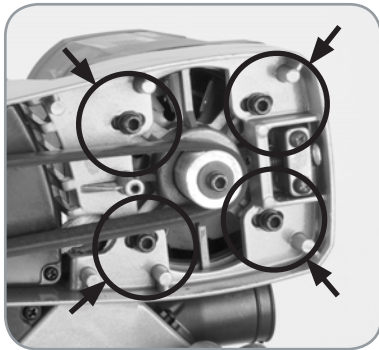

Fig. 46
- Loosen the four (4) socket headed screws which secure the motor in place. **(Fig. 46)**